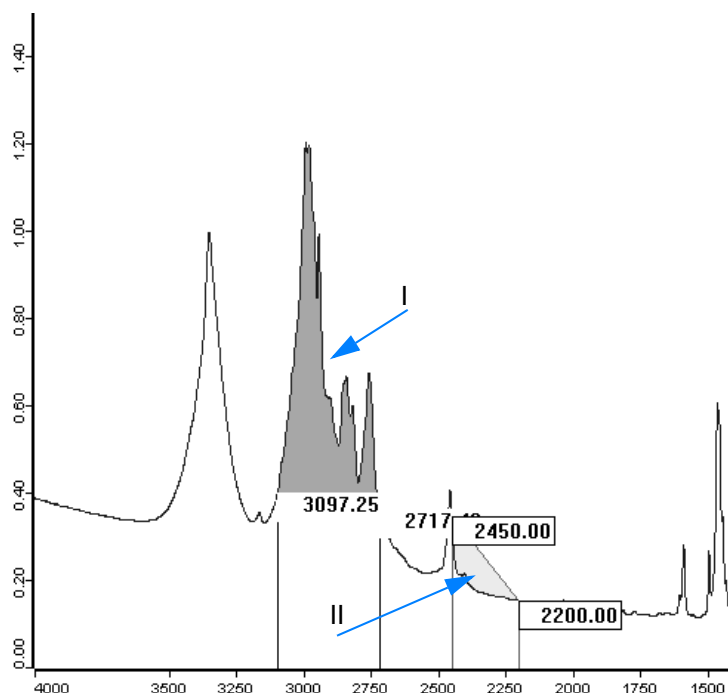

Figure 131: Activated and non-activated integration areas
- 1 Select an appropriate integration mode (A) available in OPUS.
- 2 Define an integration area (B). Left click into the spectrum and draw a line between two limits. The limits of the integration area are displayed by the exact wavenumber.
Activated integration areas are displayed in red (I in figure 131), non-activated areas are displayed in light red (II).